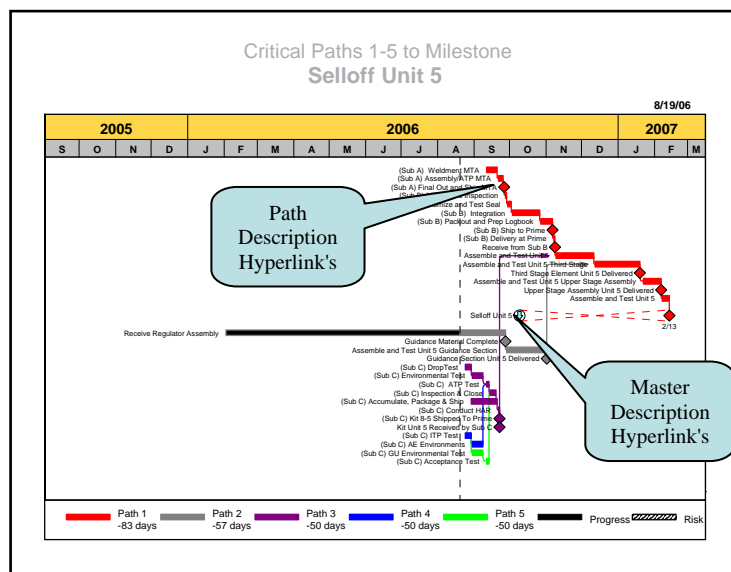

Figure 6
- 6) The chart (Figure 6) can now be modified and/or copied to Microsoft Word or PowerPoint for presentation.